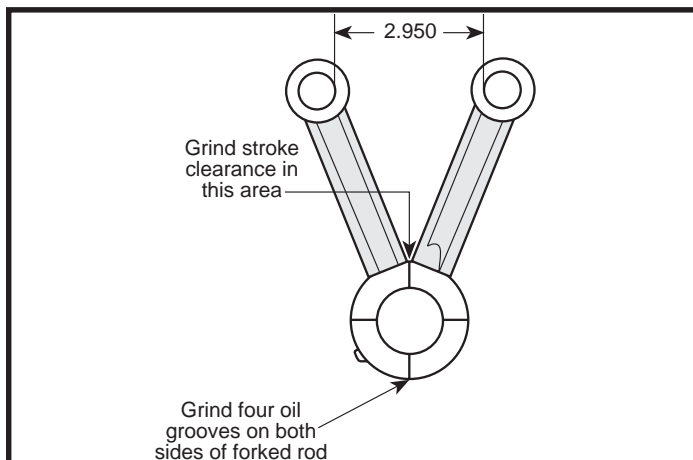

Figure 5
- To insure adequate oil on sides of rods and matching thrust surfaces of flywheels, S&S recommends that four grooves be ground on each side of both front and rear connecting rods. **See Figure 5.** Make these grooves .020" to .030" deep and .030" to .040" wide and should be ground 90° from each other. After making grooves, remove all sharp edges and burrs with emery cloth.
- With rods assembled, measure distance between rods at closest points in wristpin holes. If measurement exceeds 2.950" as shown in **Figure 5**, grind female rod at points where male rod makes contact to achieve sufficient clearance.